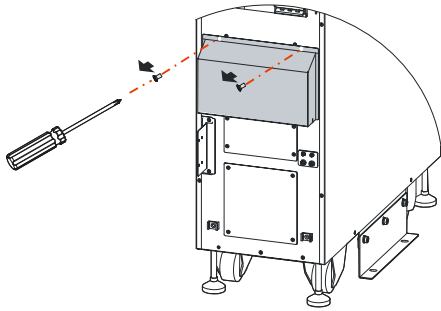
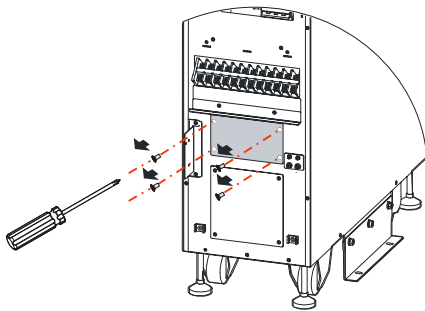

Figure3-16 Unscrew the bolt on the wiring cover plate
Figure3-17 Unscrew the bolt on the mode connector cover plate
Step 1 Unscrew the bolt on the wiring cover (as shown in Figure3-16), dismantle the wiring cover plate. Then unscrew the bolt on the connector cover (as shown in Figure3-17), dismantle the connector cover plate.